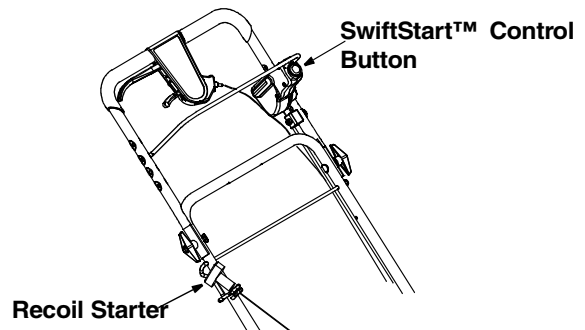

Figure 10
6. Using your left hand, pull the blade control handle all the way toward the upper handle. See Figure 10. Starter will de-energize and engine will start. (NOTE: If engine does not start, release blade control handle and follow steps 8, 9, 10, 11 and 12 in the “First Time Starting Engine” instructions.)